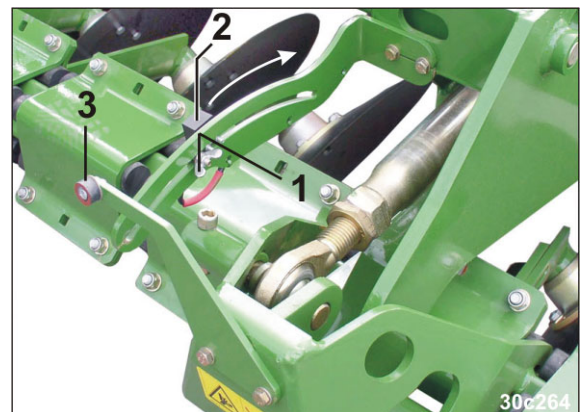

Fig. 148
4. Release the wing nuts (Fig. 148/1).
5. Position the sensor (Fig. 148/2) and the magnet (Fig. 148/3) one above the other.